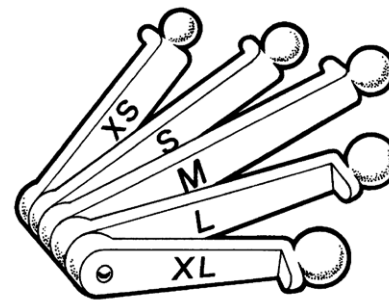

Figure 21
When two-sized foam earplugs are utilized, selection of the proper size product is a concern if optimum protection is to be obtained. As a guide in estimating earcanal sizes, 3M makes available the Eargage™ tool that consists of plastic spheres of increasing diameter mounted on plastic shafts [approximately 1-mm increments from 7 mm for the extra small (XS) to 11 mm for the extra-large (XL)], as illustrated in Figure 21.